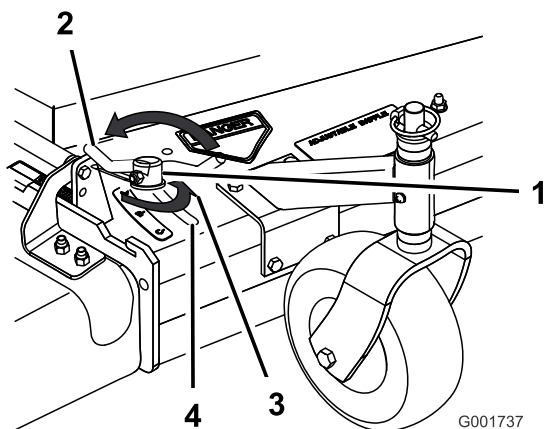

Figure 15
3. To adjust the cam lock, swing the lever up to loosen the cam lock (Figure 15).
5. Swing the lever back over to tighten the baffle and cam lock (Figure 15).